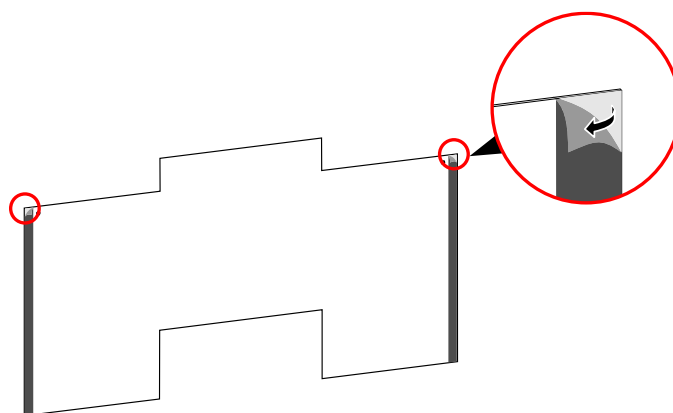

Figure3-7 Tear back glue
Step 5 Fix the base module to the installed floor, as shown in Figure3-7.